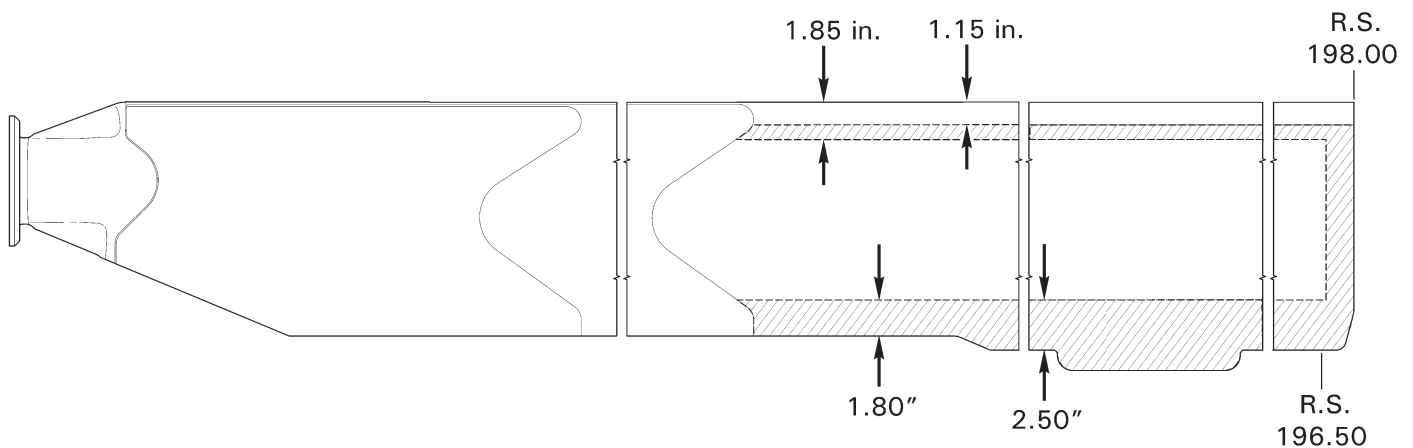

FIGURE 62-18 TIP CAP, SPAR, AND TRAILING EDGES - VOID AND DEBOND LIMITS
1. Refer to Figure 62-18. Verify no continuous void larger than 0.10 square inch. 90% of the area must be securely bonded. Voids separated by 0.25 inch or less spanwise are considered continuous.